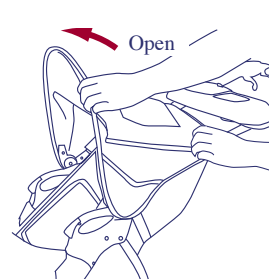

Figure 10.
- To open the canopy, push forward on the front edge of the canopy while holding the rear of canopy in place. Please see figure 10.